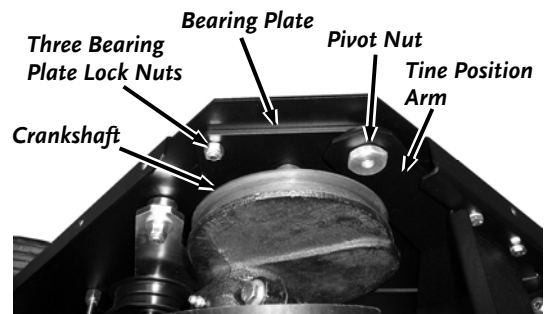

Figure 22
6. Use a 1" or Adjustable Wrench (inside of Frame) and a 1/2" Wrench (outside of Frame) to remove the two Pivot Nuts and Bolts from the Tine Position Arms to release the Arms (**Figure 22**).